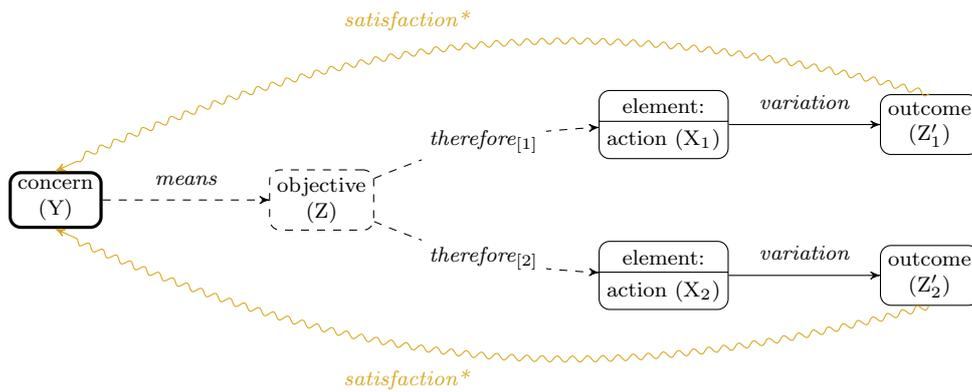

FIGURE 4 Generic Descriptive Causal Diagram (DCD); XYZ problem definition (XPD)
- The problem in an ‘XYZ’ form (Figure 4)
- Descriptive causal diagrams — DCD_[T] (Figure 4)
- XYZ problem definition — XPD_[M] (Figure 4)